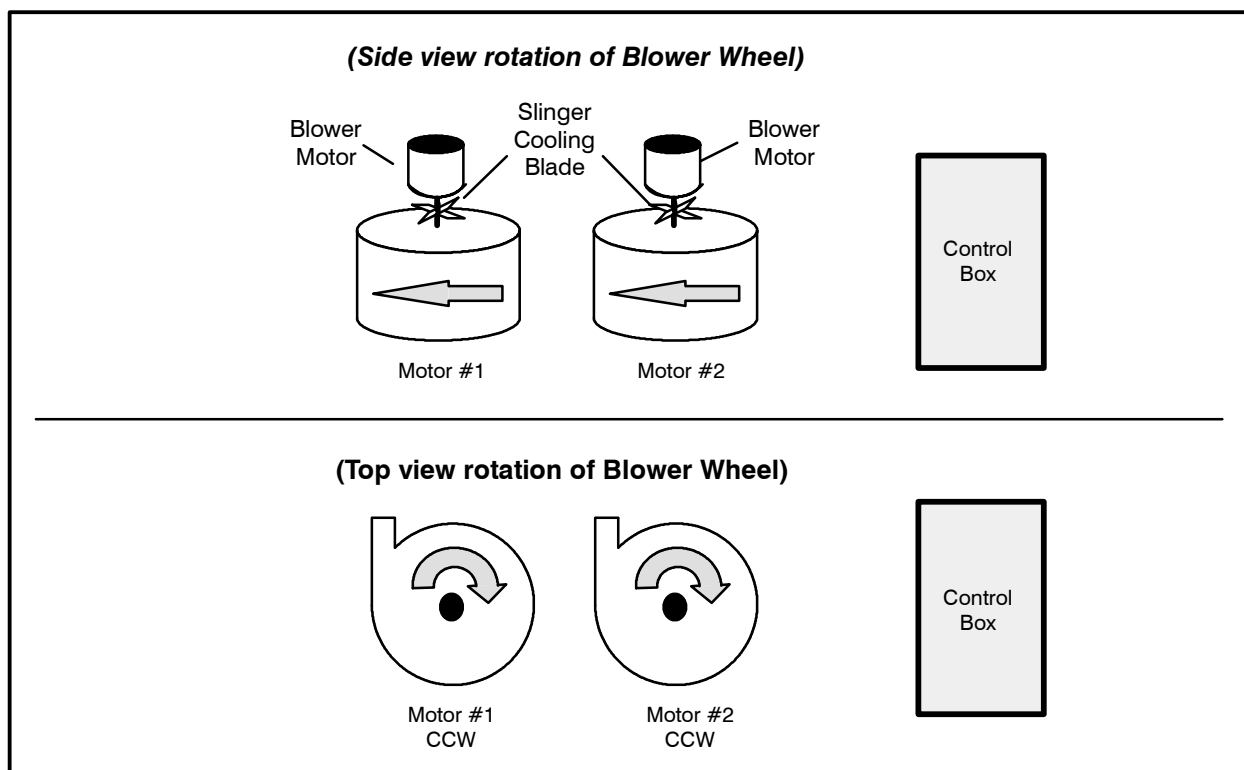

FIGURE 1
1. Remove the back of the oven body and verify proper motor rotation. (See FIGURE 1)
For motor placement, the direction of rotation is viewed from the oven's rear, working from left to right, beginning at the control box. In most cases, the motor direction is referenced to the end of the shaft (EOS). However, due to the vertical positioning of the motors in Mastertherm ovens, it is more instructive to reference the end of the motor (EOM) as looking from the rear of the oven. In FIGURE 1 all directions are taken from EOM. The correct rotation amperage draw is approximately .6 amp cold/.3 amp hot. If the measured amperage is less than .3 amp cold/.1 amp hot, check for proper motor rotation direction.